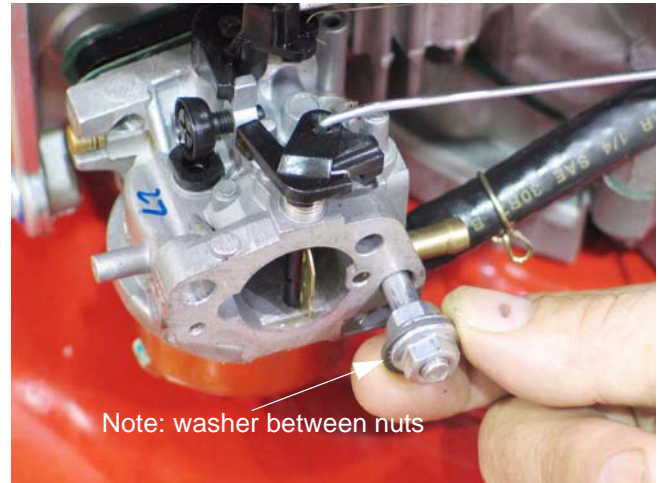

Figure 8.17
8.17. After the second stud is removed, the carburetor can be maneuvered to disconnect the linkages. See Figure 8.17.